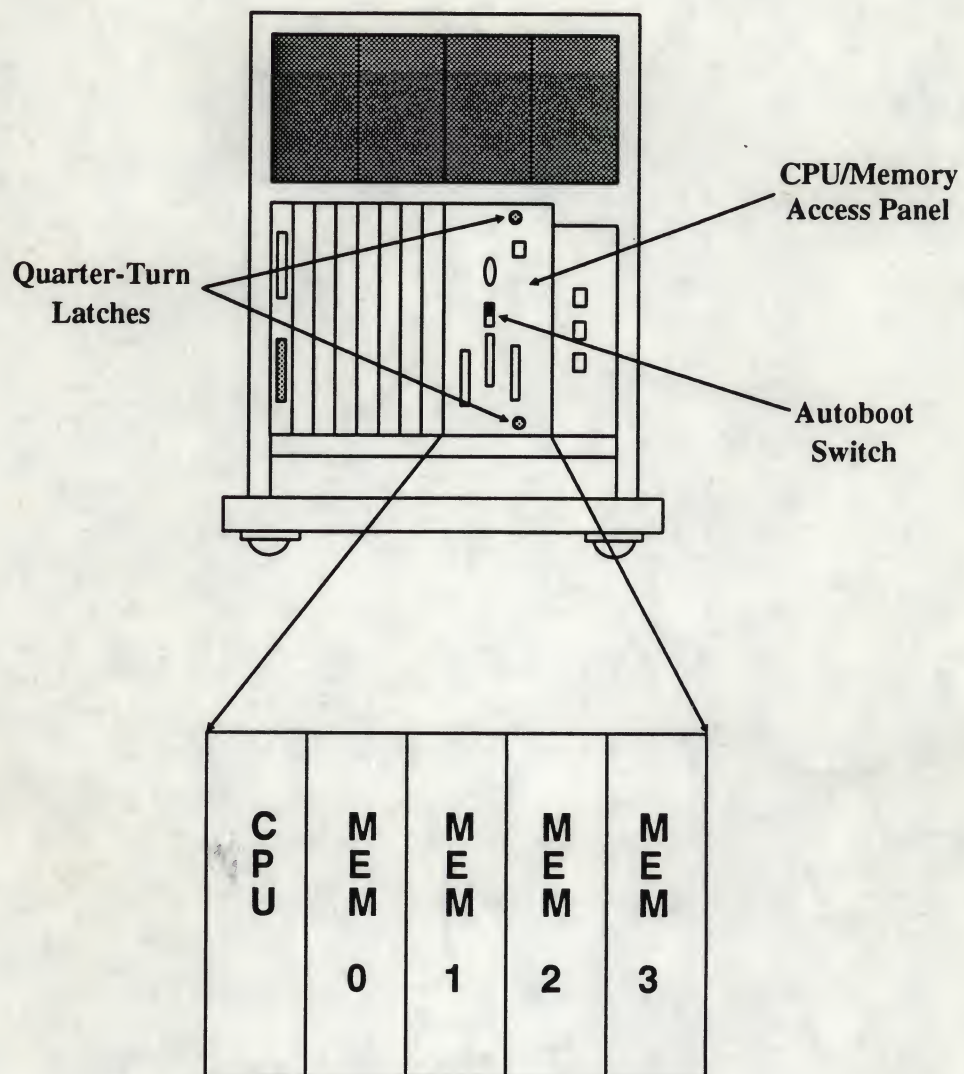

Figure 1. CPU/Memory Backplane Access
- ① **Observe proper anti-static procedures.** **Shutdown** the operating system and **turn off the power** to the computer. Unlock and open the front door of the computer exposing the BA440 backplane. **Disconnect any network and DSSI disk cables** from the CPU/memory access panel. **Release the two quarter-turn latches** on the CPU/memory access panel using a phillips screwdriver (see *Figure 1*). One latch is located at the top of the panel and the other is at the bottom. Swing open the panel to the left exposing the memory backplane.
- ② Grasp the CMX-4300 module by the top and bottom ejector handles. The module should be oriented so that the Camintonn logo and the 150-pin connector plug are on the right side. Slide the module into the first free memory slot. Slots are filled from left to right with no gaps allowed between modules (refer to *Figure 1*. and Configuration Guidelines in section 2.1). Carefully engage the ejectors in the appropriate notches at the top and bottom of the slot. Place the palm of your hand at the center of the module handle and push the module forward until it is fully inserted and centered in the slot. Do not apply excessive pressure; if the module will not insert easily, check that the module is correctly oriented and that the ejectors are properly engaged. Forcing the module could damage the module and your backplane. When the module is fully inserted and centered in the slot, lock the ejectors in place so that the module is tightly secured.
- ③ Swing shut the CPU/memory panel and tighten the latches. Reconnect any network and DSSI cables removed in step 1. Proceed to section 2.4 for post-installation testing.
- ① Set the CPU autoboot slide switch to the upper position (see *Figure 1*). Power on the computer and observe the self-tests from the system console. All tests should run to completion with no errors.
- ② Verify that the system sees the new memory and that no bad memory was detected. At the system console enter the following command: